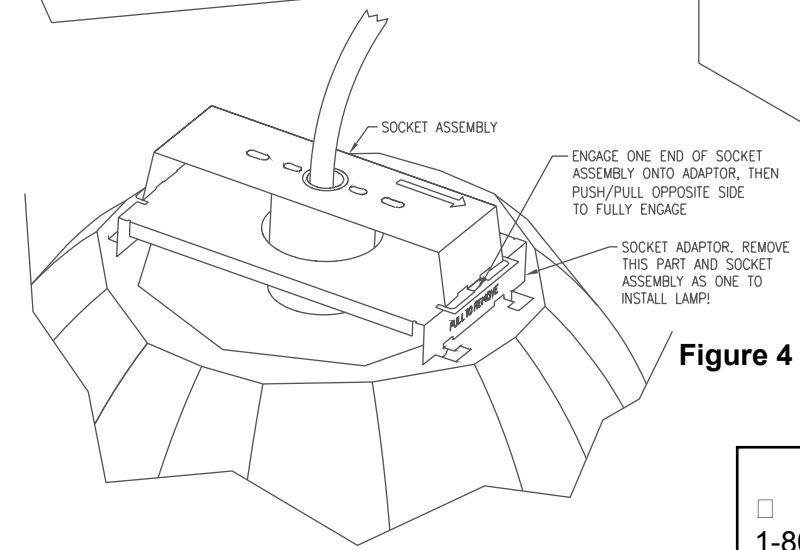

Figure 4
16. Attach existing socket assembly to top of reflector/socket adaptor by engaging tabs on one end of socket assembly into mating slots on adaptor. Then push/pull opposite side of socket assembly to engage opposite side of adaptor. See Figure 4.
17. Install lamp into socket by disengaging *socket adaptor* from top of reflector (see Figure 4) and lifting the adaptor and socket assembly up and away from reflector. Tighten lamp into socket, loosen slightly, then retighten to ensure proper engagement. Wipe lamp with dry, clean cloth. Insert lamp/socket assembly/adaptor into top of reflector re-engaging tabs on adaptor into slots on top of reflector. See Figure 4.